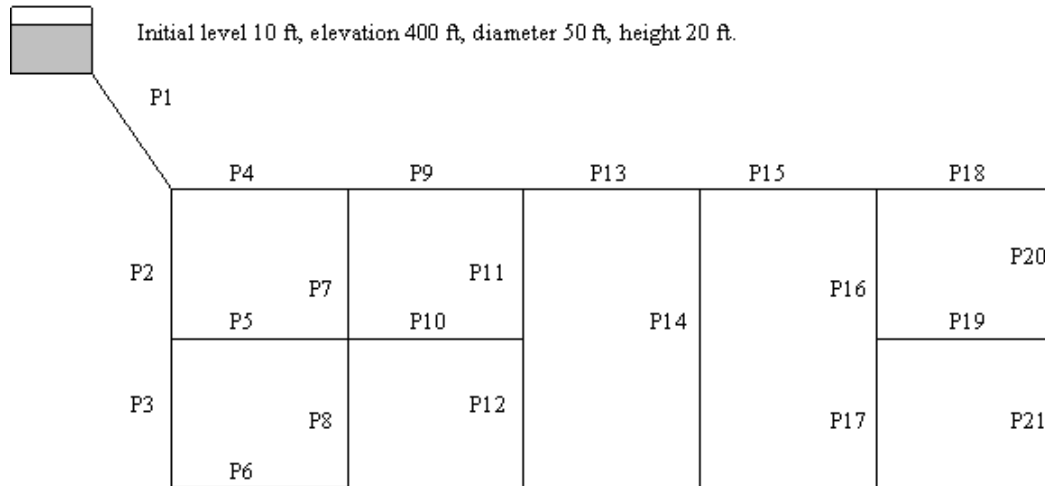
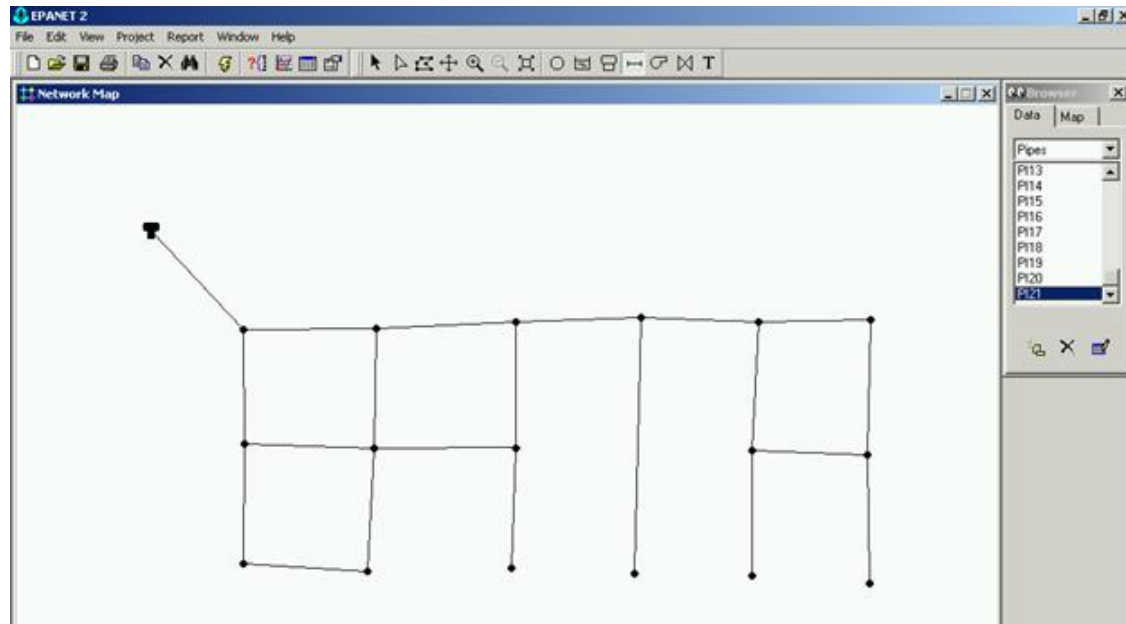

Figure 1. Network configuration in step-by-step example.
Figure 13. Final Network.
1. Assume that you need to calculate the diameter of each pipe, the flow and velocity in each pipe, and pressure in each node, in the network shown in Figure 1:
The pipes' order is stated in the problem. Use the same order as in Figure 1. The final network is shown in Figure 13